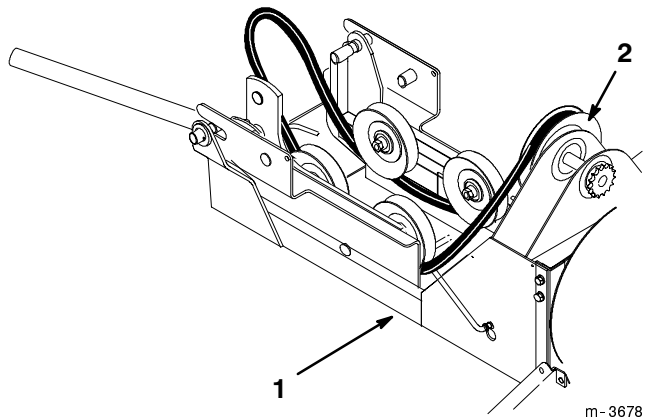

Figure 6
2. Slide the pulley box into the snowthrower frame (Fig. 6).
3. Route the belt over the snowthrower pulley (Fig. 6).
1. Position the snowthrower frame assembly and its attachment parts on a level surface with enough space behind them to accommodate the tractor (Fig. 6).